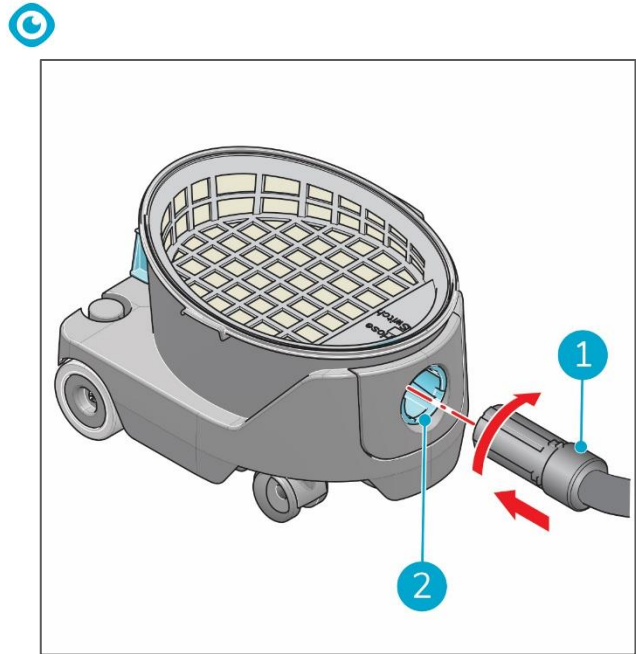

Figure 13
14. Place the hose (Figure 13, pos 1) into the hose connector (Figure 13, pos 2) turn it clockwise to lock it.